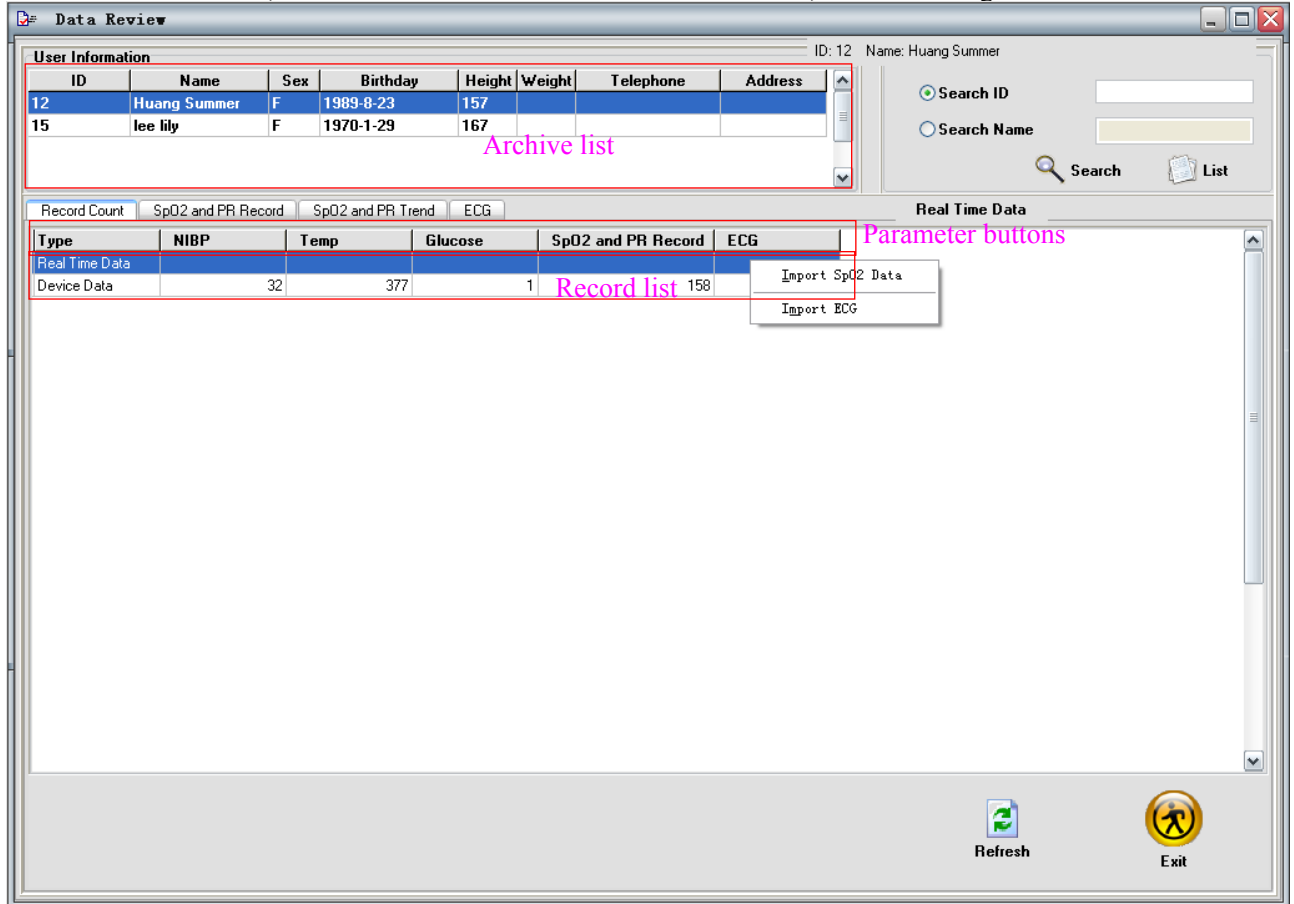

Figure 3.10 Review screen
1. On main menu window, click "Review" to enter into data review screen, as shown in figure 3.10.
" **NIBP** " , " **Temp** " , " **Glucose** " , " **SpO2 and PR Record** " or " **ECG** " etc. to enter into the corresponding review window. Click " **Record Count** " to enter into figure 3.10.